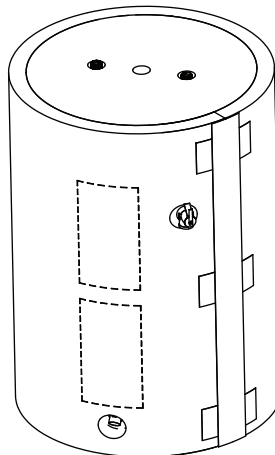

Figure 4
4. Insulate top of water heater by placing top insulation as shown in Fig 4.